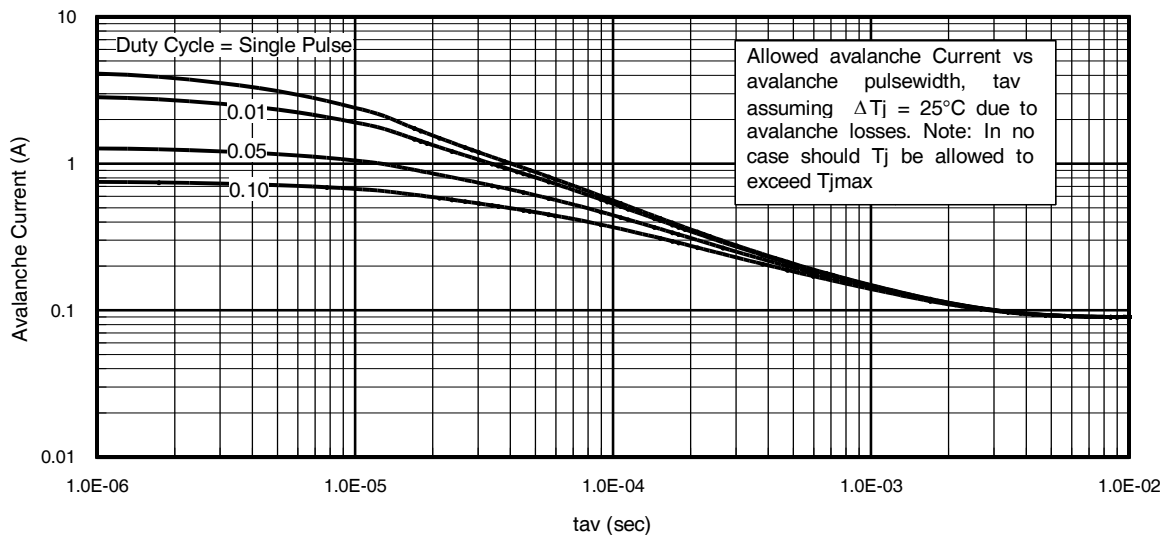

Fig 15. Typical Avalanche Current Vs.Pulsewidth
| I_{AR} | Avalanche Current ① | See Fig.15,16, 12a, 12b | A |
Notes on Repetitive Avalanche Curves , Figures 15, 16:
7. ΔT = Allowable rise in junction temperature, not to exceed T_{jmax} (assumed as 25°C in Figure 15, 16).